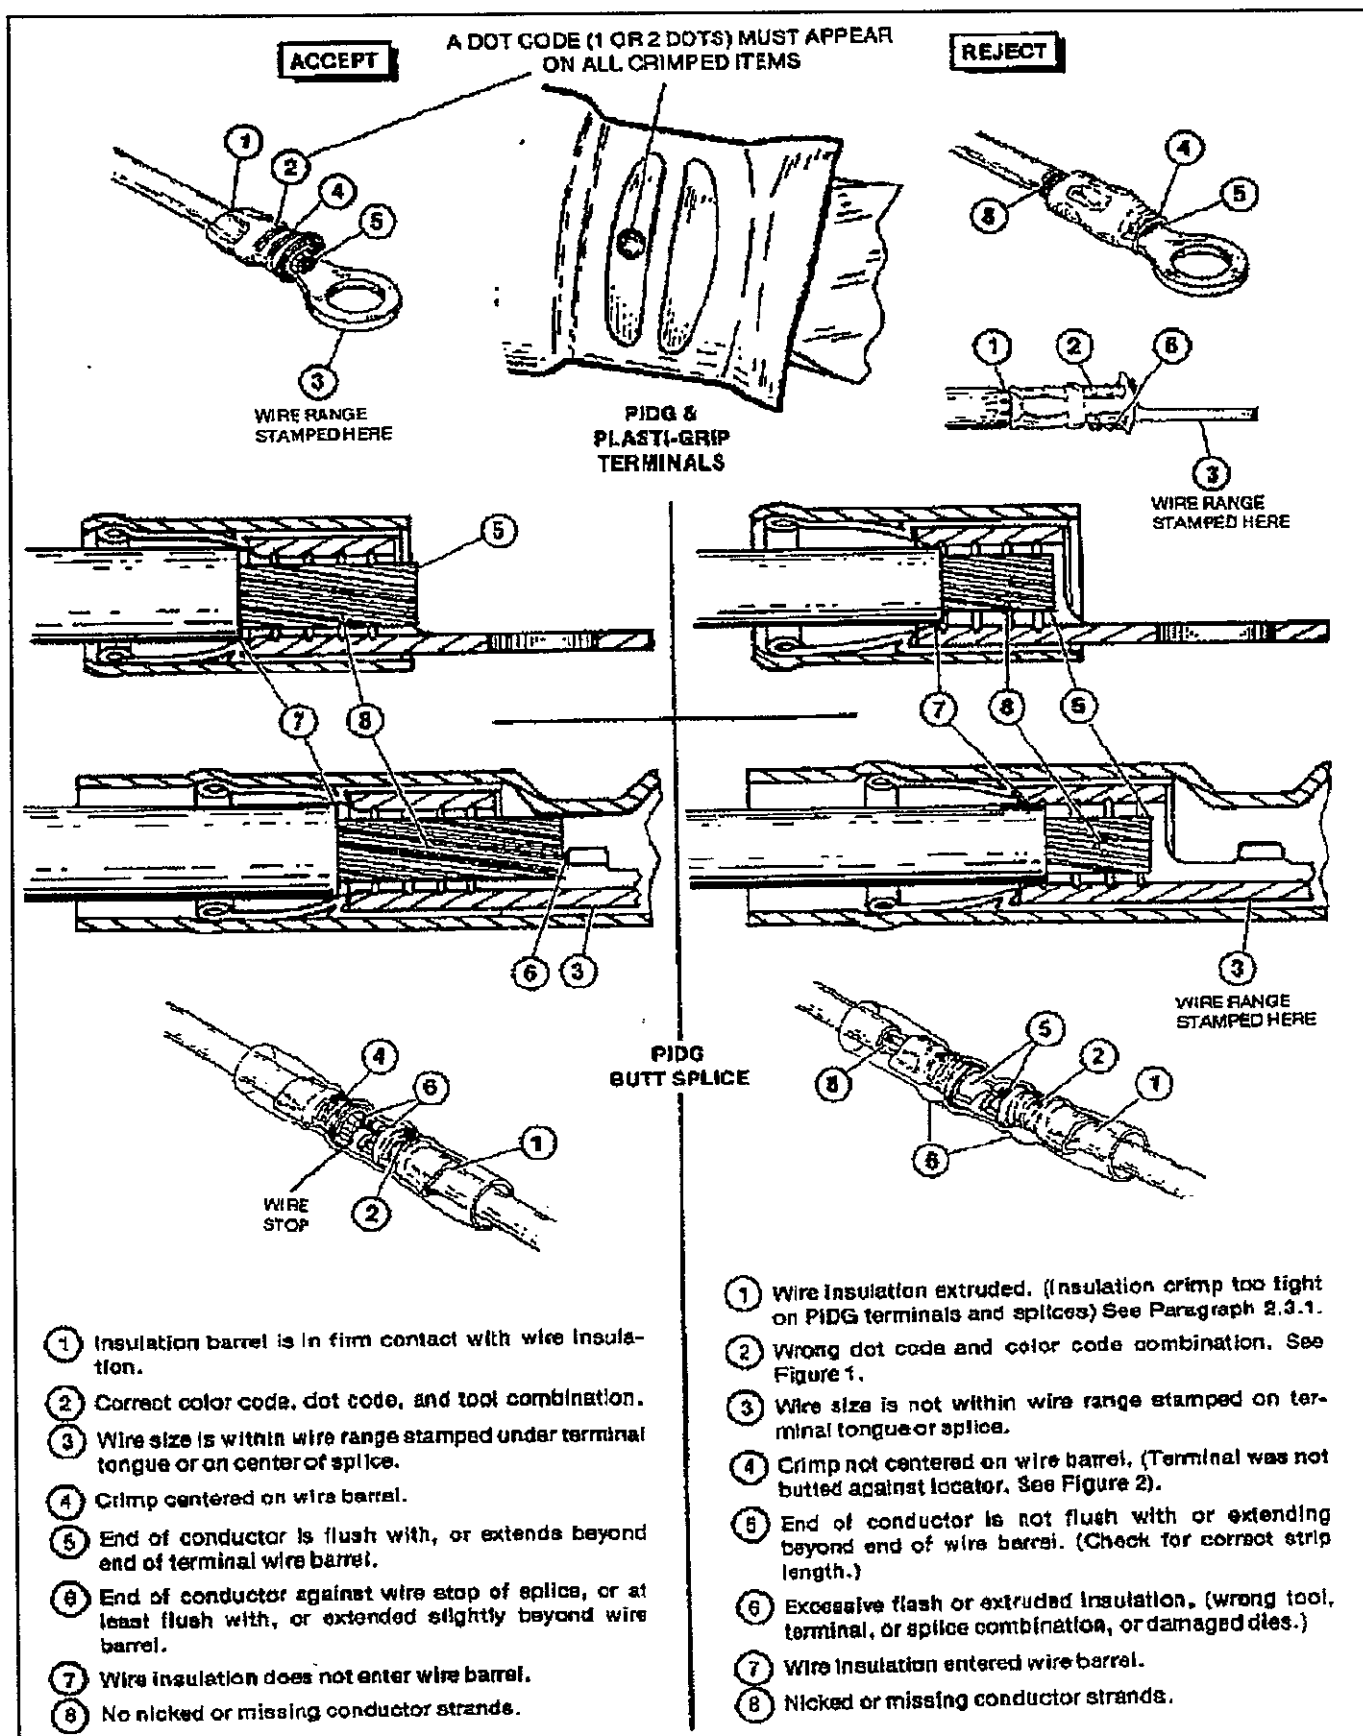

Fig 5
- Refer to Figure 5 or 6 for terminal crimp inspection procedure.
- Refer to Figure 5 for splice crimp inspection procedure.
- Insert insulation crimp adjustment pin in No.3 position. See Figure 5.
Inspect crimped terminals, splices and spare wire caps by checking the features described in Figures 5 and 6. Use only the terminals, splices and caps that meet the conditions shown in the "ACCEPT" column.